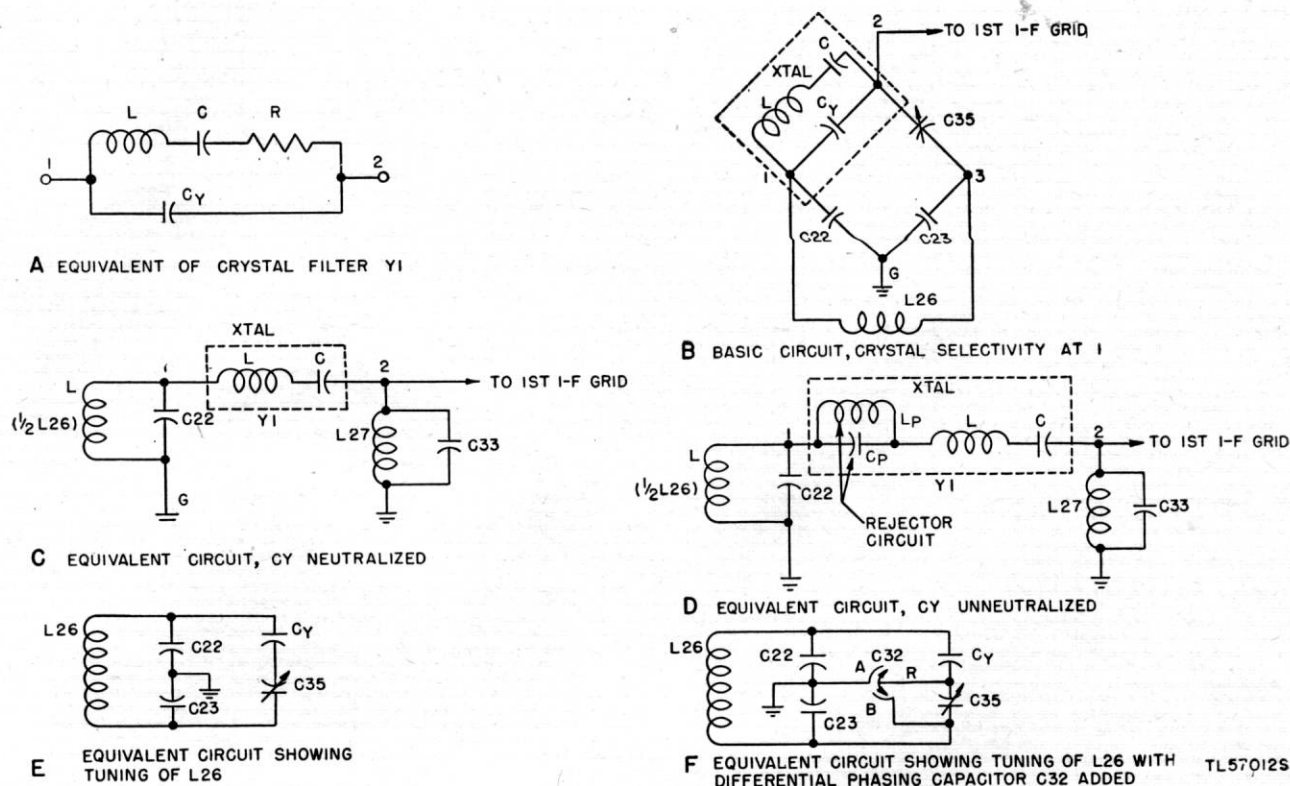

Figure 28. Radio Receiver BC-779-B, functional and equivalent diagrams of crystal filter circuit.
(4) Refer to appendix III for circuit details of Improvement Kit MC-531.
61. Crystal Filter (fig. 28)
a. EQUIVALENT CRYSTAL CIRCUIT. The equivalent electrical circuit of a crystal is shown in "A," figure 28. The circuit, and hence the crystal, are resonant at two frequencies: The frequency at which the reactance of L is equal to the reactance of C (series resonance), and the frequency at which the effective reactance of L-C (in series) is *inductive* and *equal* to the capacitive reactance of C_Y (parallel resonance). At the series-resonant frequency the crystal acts as a low-impedance connection between 1 and 2. At the parallel-resonant frequency the crystal acts as a high impedance between 1 and 2.
b. BASIC FILTER CIRCUIT ("B," fig. 28). Capacitors C22 and C23 (100 mmF each) are connected in series across the secondary of i-f input transformer L26, and their junction is grounded to provide a midpoint connection in the resonant circuit L26-C22-C23. Consequently, the capacitor voltages are always of equal amplitude but 180° out of phase. Phasing capacitor C35 (1.5 to 5 mmF) is connected between 3 and 2, and the crystal is connected between 1 and 2.
c. NEUTRALIZATION OF C_Y . Capacitors C22, C23, C35, and C_Y (the capacity between the crystal holder plates) form a capacity bridge; the input is applied to 1 and 3, the output is taken from 2 and G. When capacitor C35 is adjusted so that its capacitance is equal to that of C_Y , the voltage coupled from 3 through C35 to 2 is equal and opposite to the voltage coupled from 1 through C_Y to 2. Under this condition C_Y is neutralized and the crystal acts as a series-resonant circuit only ("C," fig. 28). Since the crystal is resonant at the intermediate frequency, there is (in effect) a direct connection between 1 and 2. As indicated in "C," figure 28, only the voltage across C22 (one-half the secondary voltage) is applied through the crystal to the grid circuit of the first i-f stage.
tance of L - C and the capacitive reactance of C_Y . For simplicity the parallel-resonant circuit is denoted as rejector circuit $L_P C_P$ in "D," figure 28. L_P and C_P denote the effective inductance and capacitance at the parallel-resonant frequency. L and C indicate the effective inductance and capacitance of the crystal at the series-resonant frequency, in this case the 465-kc i.f. In other words, unless C_Y is neutralized, the crystal acts simultaneously as a parallel- and series-resonant circuit. The parallel-resonant circuit $L_P C_P$ has no effect on the 465-kc i.f. but presents a high impedance to, and therefore rejects, the frequency to which $L_P C_P$ is resonant. L and C present extremely low impedance to the 465-kc i-f signal voltage and high impedance to voltages at different frequencies. *With underneutralization the resonant frequency of $L_P C_P$ is higher than 465 kc.*
f. CAPACITOR C32. Capacitor C_{35} , in series with capacitance C_Y , is across L_{26} and affects its tuning ("E," fig. 28). To avoid the detuning effect and to enable shifting the rejection frequency to either side of the i.f., differential PHASING capacitor C_{32} ("F," fig. 28) is used in the radio receiver. Stator sections A and B are so arranged that, as rotor R is turned out of one stator into the other, the capacitance of the first *decreases* by the same amount that the capacitance of the second *increases*. Thus, whether the rotor is entirely engaged in stator A, is at a midpoint, or is entirely in stator B, the effective capacitance across A-B, and therefore across L_{26} , remains constant. Assume that C_{32} , the PHASING capacitor, is set at the arrow position of the PHASING control on the front panel and
(2) CRYSTAL SELECTIVITY switch at 1. When CRYSTAL SELECTIVITY switch SW7 is placed at 1, the short is removed from the crystal. If the secondary of L26 and the parallel-resonant grid circuit, L27-C33, are tuned to 465 kc, each is the equivalent of a high resistance in series with the equivalent series-resonant circuit of the crystal ("C," fig. 28). Consequently, the *Q* and therefore the selectivity of the series-resonant (crystal) filter circuit is reduced, and the bandwidth is several kilocycles wider than that of the crystal alone.
(3) CRYSTAL SELECTIVITY at 2, 3, 4, or 5. Advancing the CRYSTAL SELECTIVITY switch